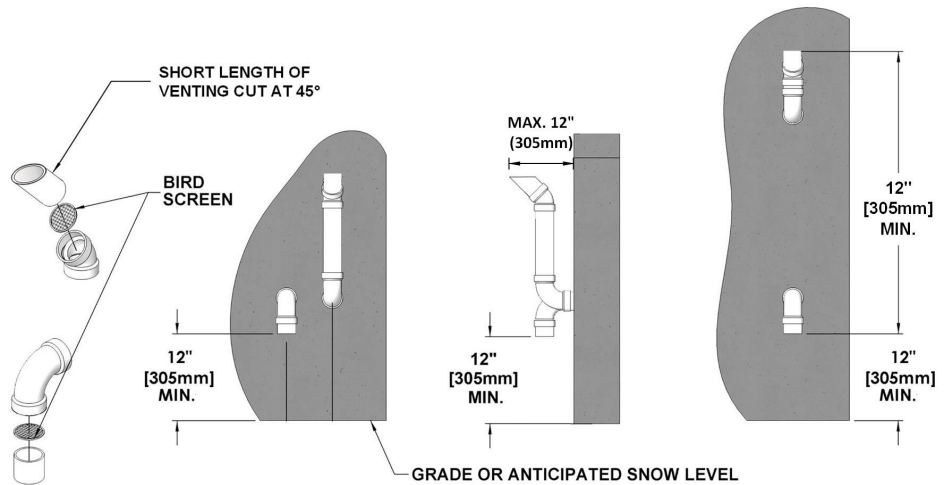

Figure 8: Sidewall vent termination - piping configuration
- The elevation of both pipes can be raised in "periscope style" after passing through the wall, then configured as in Figure 8, to gain required clearance.